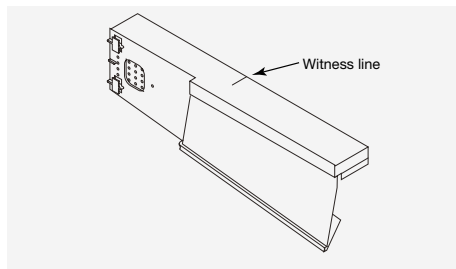

Fig. 10 – Location of witness line and cut being made
- 11 When using medium format tiles, verge unit distortion can occur when the units are slid into position beneath the next tile course above. This distortion can be eliminated by making a small cut (Fig. 10) along the witness line, as shown.